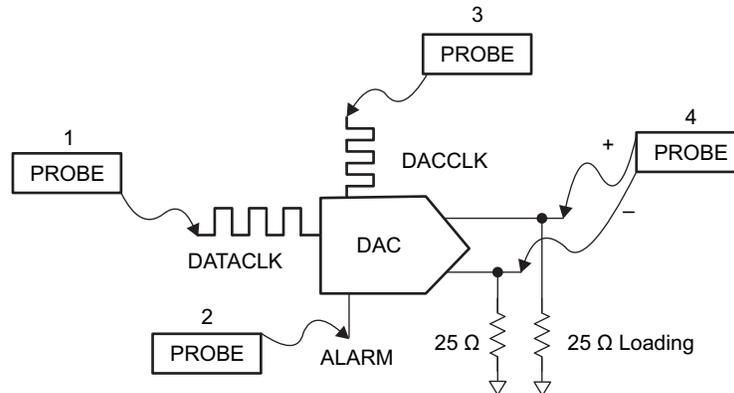

Figure 3. Probing Parameter of the DAC348x Family, DATACLK, DACCLK, Output, and ALARM
- Monitor the output ALARM pin, DATACLK and DACCLK using a Tektronix 4-channel, 3-GHz, Digital Oscilloscope. Before testing, calibrate and deskew each probe to minimize the delay difference among the probes. Figure 3 shows the probing parameter of the DAC348x family. In this setup, Channel A is the output of the DAC348x family. To avoid additional energy time constant introduced by the transformer, resistive termination on the DAC output is adopted.